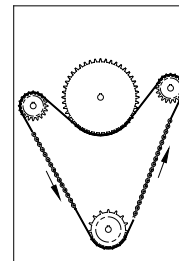

FIGURE 1
LOCATE THE RIGHT SIDE OF THE MACHINE (FIGURE 1). THIS SIDE WILL HAVE THE SINGLE DRIVE CHAIN. YOU WILL NOTICE THE NINE (9) BEARING FLANGES, EIGHT (8) TWO (2) HOLE FLANGES AND ONE (1) FOUR (4) HOLE FLANGE. WITH A GREASE GUN, APPLY A SMALL AMOUNT OF GREASE TO THE FITTINGS. YOU WILL ALSO NOTICE A GREASE FITTING COMING OFF (PART NO. K203RS) NEAR THE MIDDLE OF THIS PANEL. THIS MAKES A TOTAL OF TEN (10) GREASE FITTINGS FOR THE RIGHT SIDE.